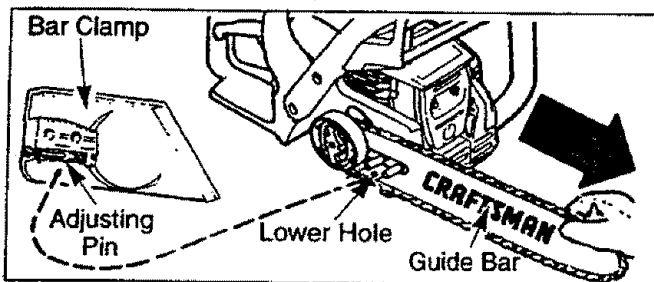

Figure 38
- Fit chain drive links into top of guide bar. Figure 38.